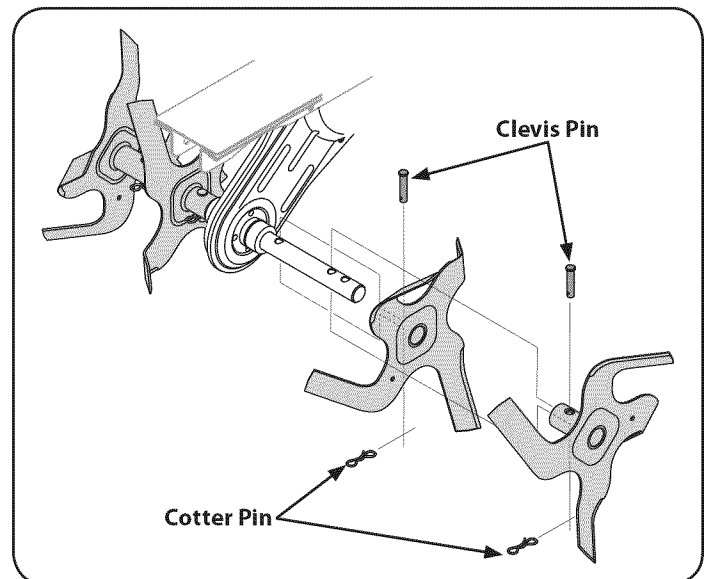

Figure 27
2. To remove a tine assembly, simply remove the cotter pin securing the clevis pin for each tine. See Figure 27.